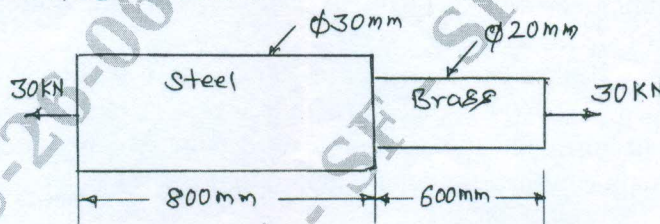

Fig.Q1(b)
- b. A stepped bar made up of steel and brass is subjected to a pull of 30 kN as shown in Fig.Q1(b). Determine the deformation of each material and stress in each material. Take $E_S = 200$ GPa, $E_B = 100$ GPa.